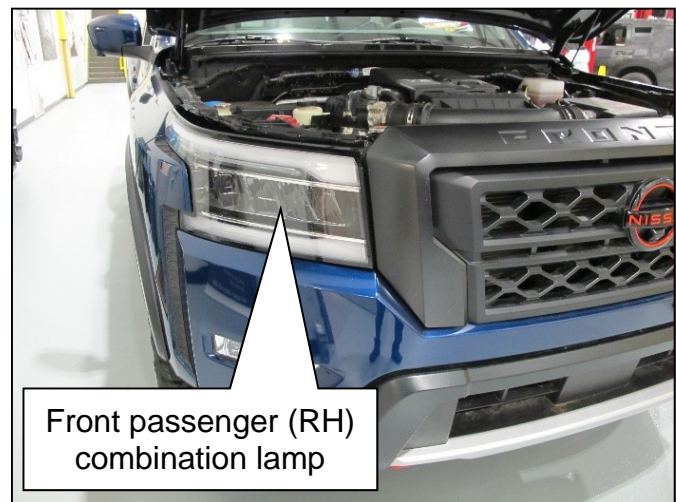

Figure 2
2. Locate the front passenger (RH) combination lamp.
**HINT:** The combination lamp shown in Figure 2 is an LED combination lamp. A Halogen combination lamp is similar.